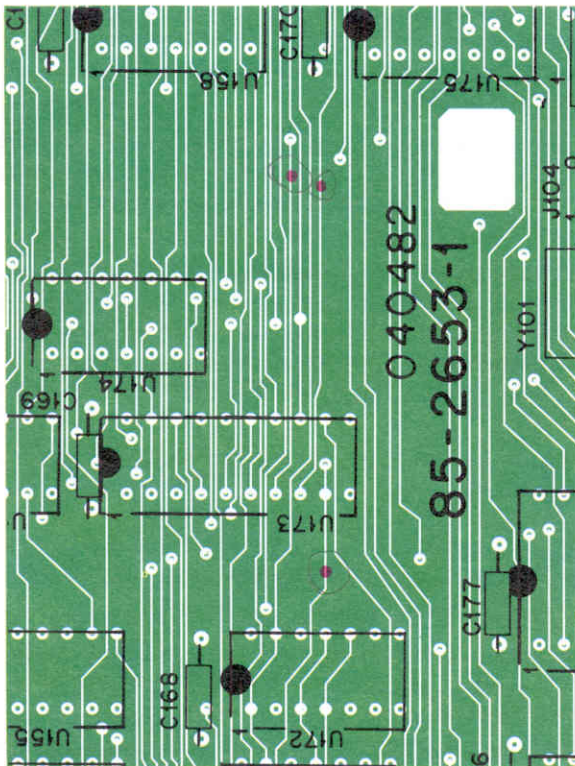

Figure 1. Component side trace cuts around U173.
(1) Cut the traces coming from pins 7 and 8 of U173 on the component side of the board. The trace from pin 8 passes to the right of C170. The trace from pin 7 ends at a feed-through hole 5/16" (.7 cm) below the lower leg of C170. See Figure 1.
(2) Cut the trace coming from pin 9 of U173 on the component side of the board. See Figure 1.
(3) Position the board so that the foil side is up, and the S-100 connectors are away from you.